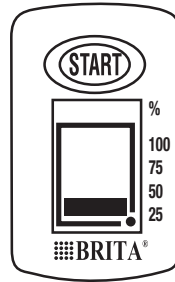

Figure 4
- At the end of every two weeks, one bar will disappear to indicate the remaining cartridge life. When only one bar is showing, ensure that you have a replacement BRITA® MAXTRA water filter cartridge available. (See figure 4).